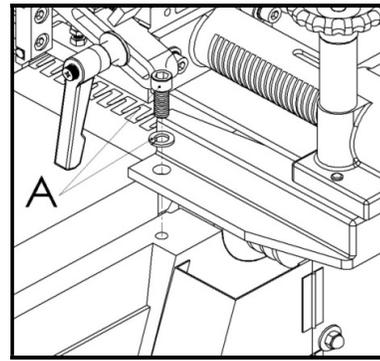

Fig. 4
Install the fence on the jointer with the provided 1/2" (12.7mm) cap screws and washers (A) as shown in Fig. 4